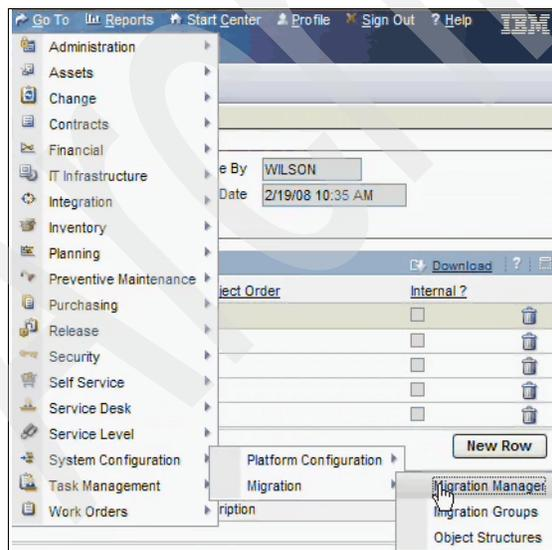

Figure 8-19 Migration menu - Migration Manager
- From the Go To menu, select **System Configuration** → **Migration** → **Migration Manager**, as shown in Figure 8-19.